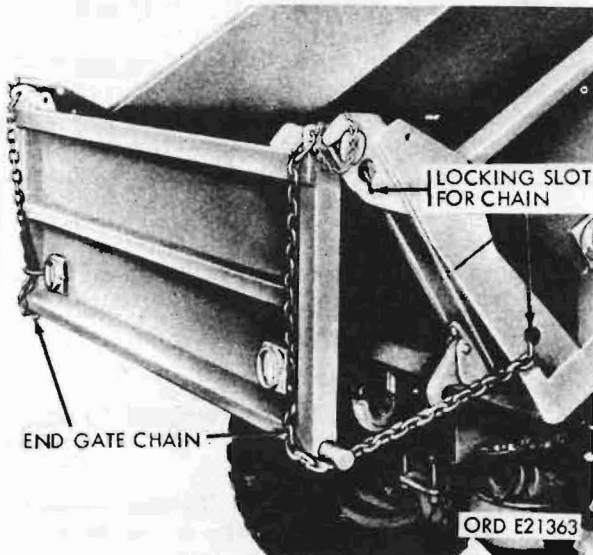

Figure 115. Dump body end gate - open for dumping
- (1) The dump body endgate is normally pivoted at the top. The gate is secured in this position by endgate lockpins inserted through the endgate upper latches. The endgate is held in the closed position by lower latches which are controlled by the dump body endgate hand lever which is located on the front left corner of the body.
- (2) To release the endgate for dumping (fig. 115), the hand lever is pulled forward and down. This releases the lower latches and allows the gate to swing open from the bottom as the body lifts. The distance the endgate swings open is controlled by adjustment of the endgate chains in the locking slots.